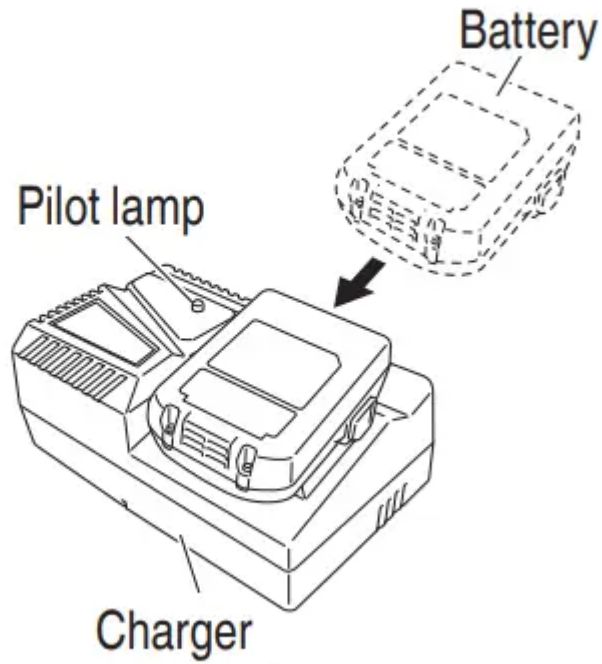

Fig. 1
2. Insert the battery to the battery charger. Insert the battery into the battery charger as shown in Fig. 1, 2.